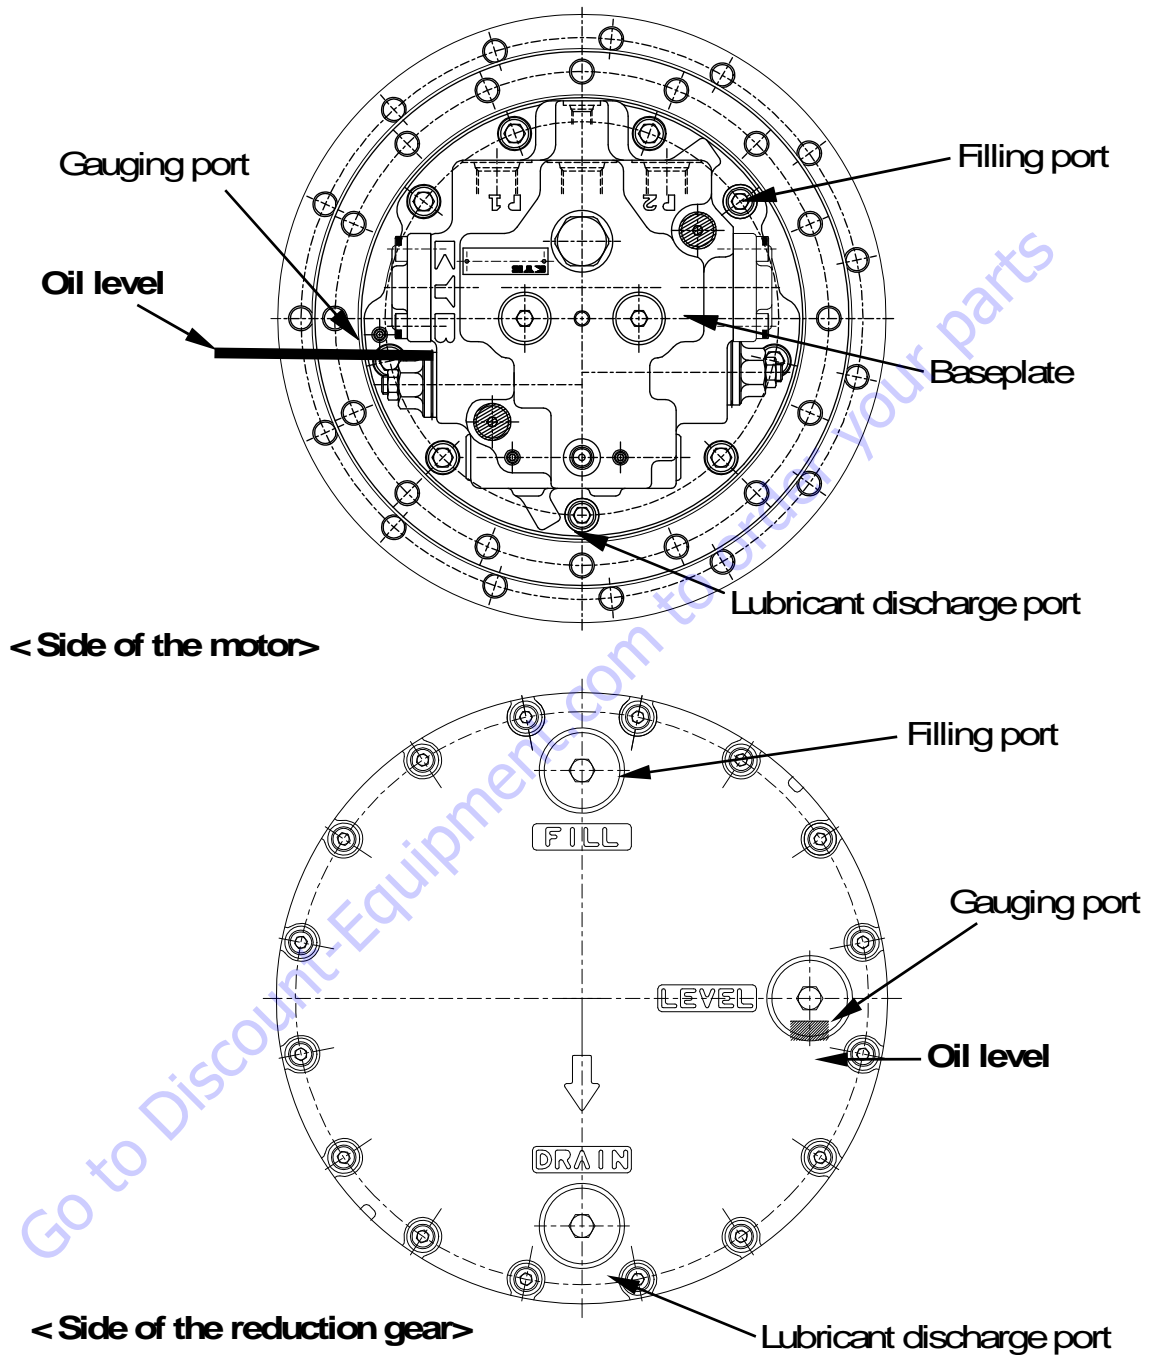

Figure 5-19. Lubricant Change
2. Fill the reduction gear case with the lubricating oil up to the specified level. (See Figure 5-19.) Remove the plugs of lubricating and gauging ports, and add lubricant until it flows out of the gauging port. Reinstall and tighten the plug of each port after making sure that lubricant flows out. (Standard Lubricant Quantity: 2600 cm²)
Remove socket head bolt for lubricating port (50) on the base-plate (32) and plug for gauging port, and make sure that lubricant flows out of the oil level detection port (45). (Refer Figure 5-19.)
Remove plug for lubricating port (1-8) on the cover (1-27) and plug for gauging port, and make sure that lubricant flows out of the oil level detection port (1-8). (Refer Figure 5-19.)
Discharge old lubricant completely by removing socket head bolts for lubricating port (50) and discharge port on the base-plate (32) and plug for gauging port (45). Then, lubricate new lubricant until lubricant flows out of the gauging port. (Refer Figure 5-19.)
Then, lubricate new lubricant until lubricant flows out of the gauging port. (Refer Figure 5-19.)